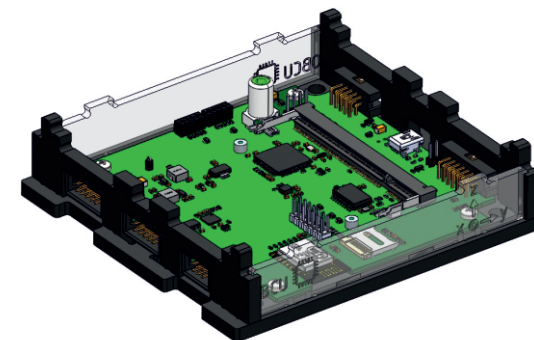

Fig. 20: Mounting two transparent panels
- 4) Secure two transparent panels to the bottom base plate. To do that, slide each panel along guide rails in walls until it touches the bottom base plate, then latch it. Observe panel arrangement and axial alignment as shown in the drawing below (Fig. 20):